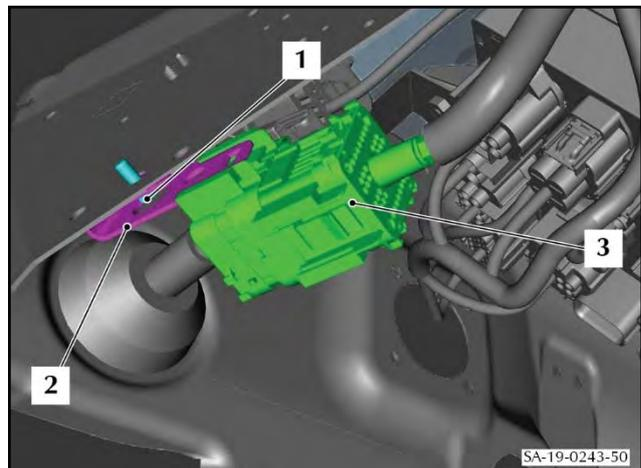

Figure 64
87. Remove the screw (1) that attaches the bracket for the harness electrical connector (2) to the body (refer to Figure 64).
88. Move the harness and electrical connector (3) to get access.